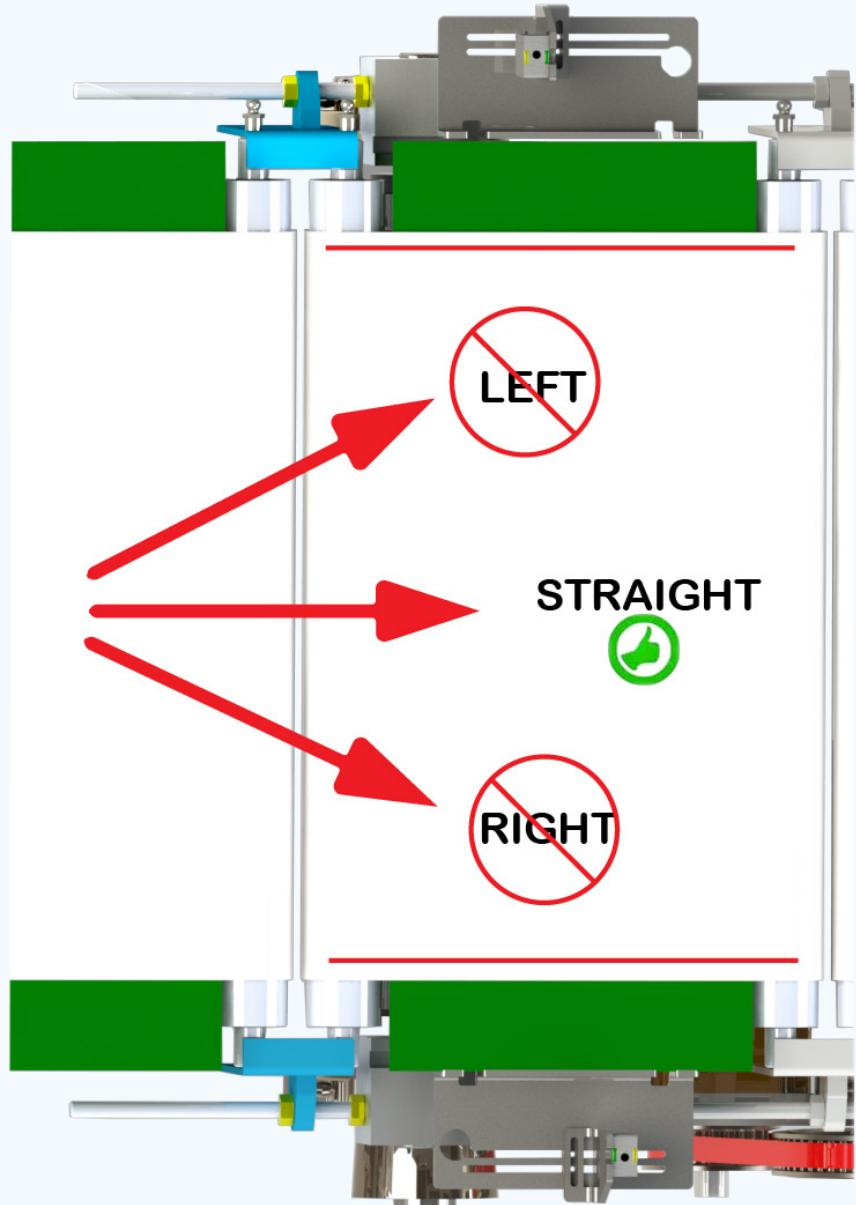

FIGURE 7.0
2. Shown to the Right: (Figure 7.0)